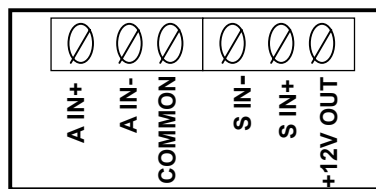

Figure 24
7. Insert the sensor’s +DC power input wire into the **+12V OUT terminal** and secure the wire by turning the terminal’s screw clockwise. (*Refer to the MX001 box or to figure 24 for the order of the terminals for the sensor wires.*)